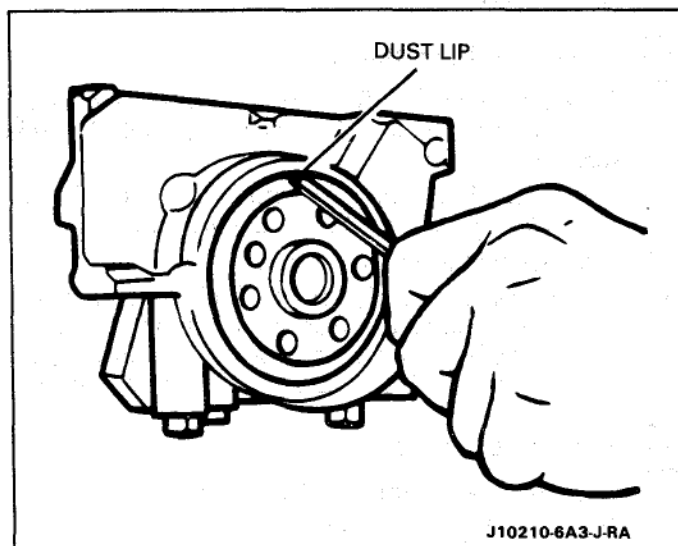

Figure 34 - Removing Crankshaft Rear Oil Seal Assembly
Figures 34 and 35 **Remove or Disconnect**
- Insert a screwdriver or similar tool through dust lip at an angle as shown in Figure 34. Pry seal out by moving handle of tool towards end of crankshaft. Repeat as necessary around seal.